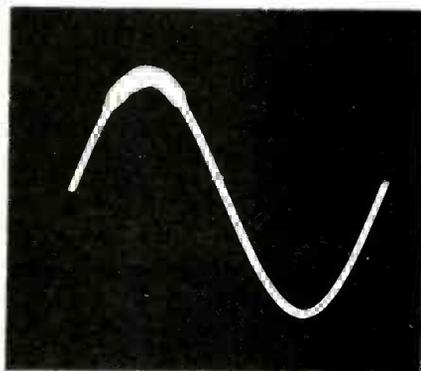

Figure 2
8. In Figure 2, a likely cause of a thickening of the peaks of the sine wave is: